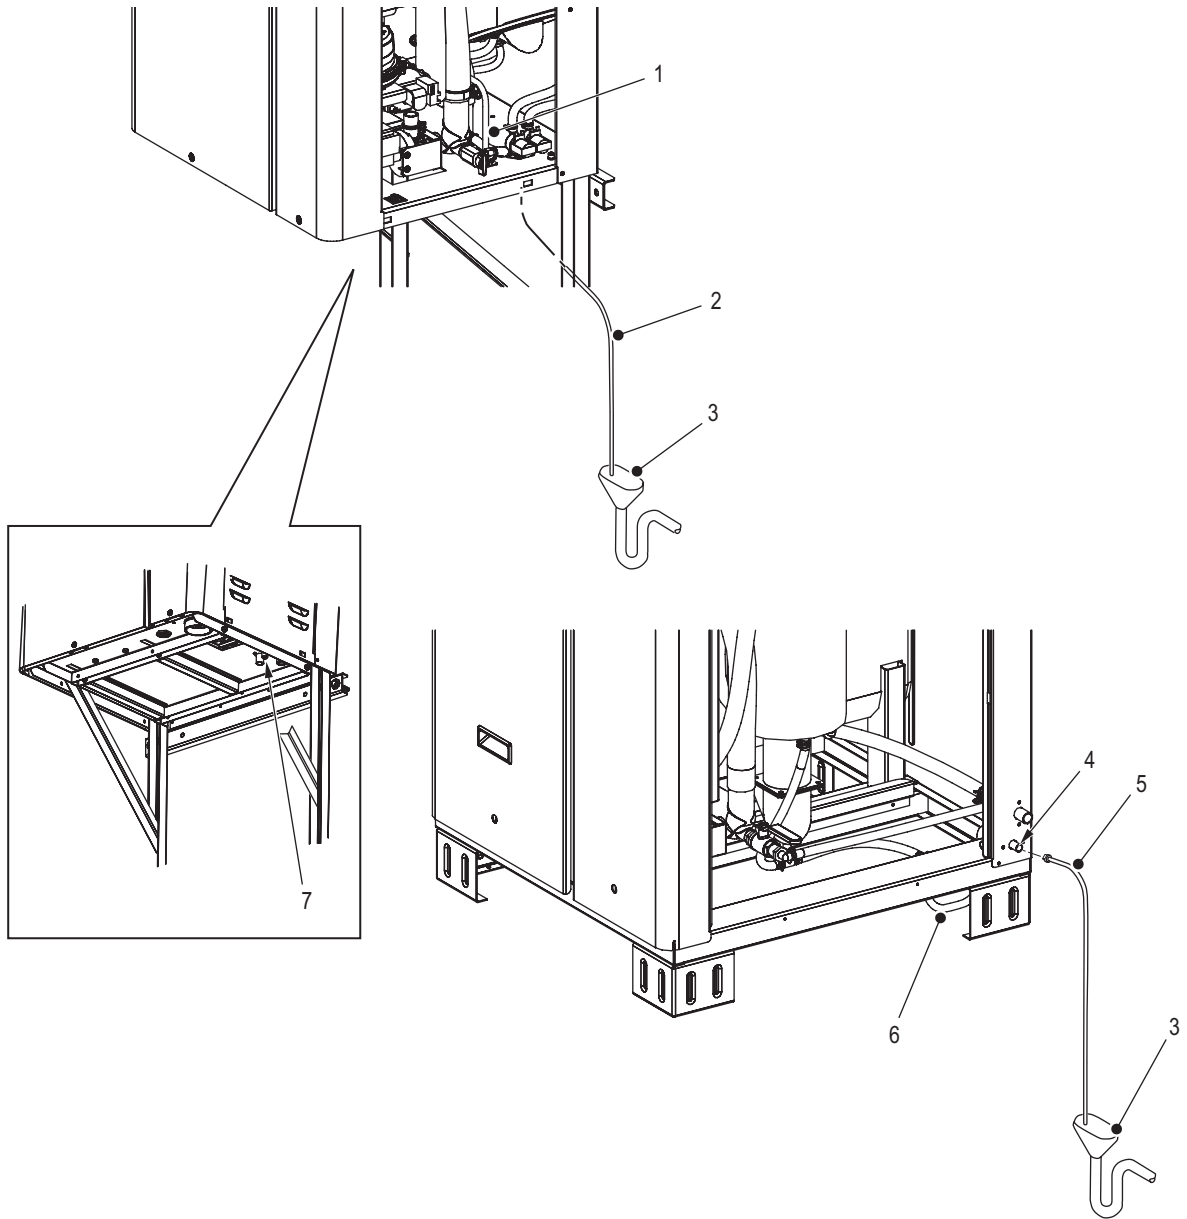

Figure 17: Exhaust Condensate Drain Line (CS/NX Model Only)
Install the exhaust condensate drain line (CS/NX model only) as shown in Figure 17.
- Install the condensate drain hose (CS/NX model only), and secure it with a hose clamp – refer to Figure 17 on page 44. The hose must be rated to 212 °F (100 °C). Connect the hose to a condensate neutralization device, if required by local code, before connecting the hose to a drain.